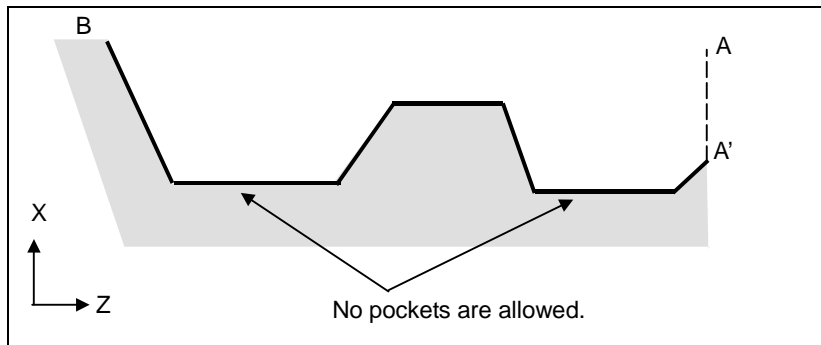

Fig. 5.8.1 (c) Figure which does not show monotone increase or decrease (type I)
(2) The figure along path A'-B must show monotone increase or decrease in the directions of both axes forming the plane (Z- and X-axes for the ZX plane). It must not have any pocket as shown in the Fig. 5.8.1 (c).